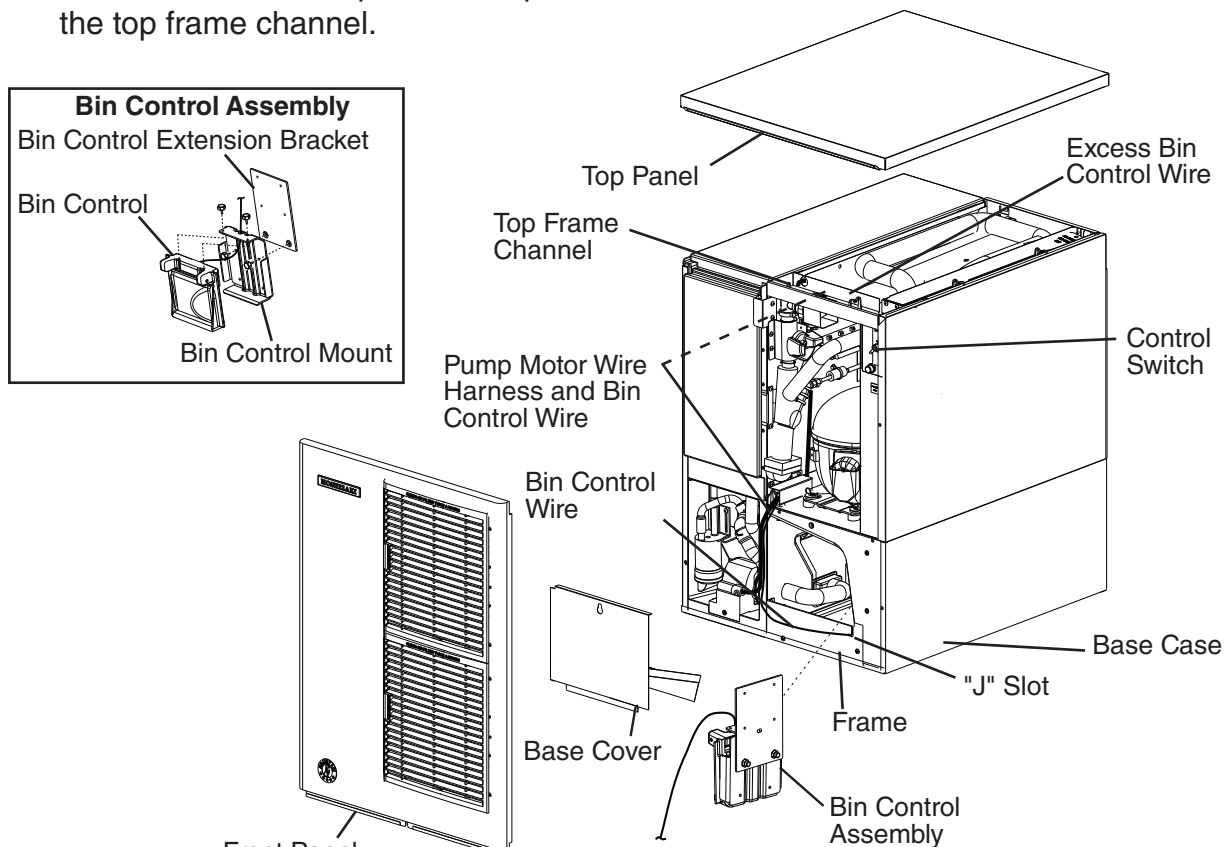

Fig. 3
- 1) If not already removed, remove the front panel, top panel, and base cover. See Fig. 3.
- 4) Pull the bin control cable so there is no slack in the ice drop area. Secure the bin control cable into the "J" slot on the frame as illustrated in Fig. 3., then replace the base cover in its correct position.